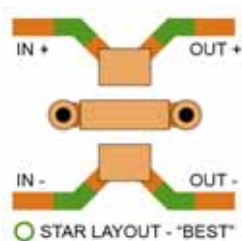

Fig. 1
**EMI Filter Applications** Low inductance PCB routing examples are shown in figures 1 and 2. Figures 3-5 show unbalanced and high inductance connections and should be avoided. See detailed application note X2Y EMI Filter Evaluation and PCB Design Guidelines.